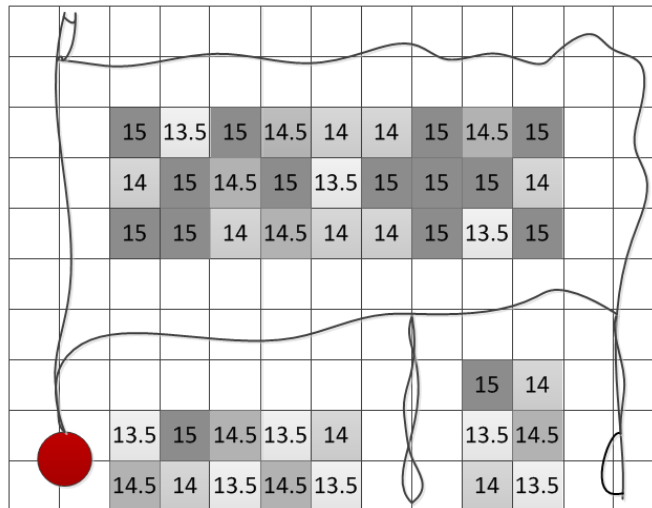

Figure 1: GVG with HIMM
5. Alternately, you can create an occupancy grid with 0’s and 1’s based upon the free and occupied space. Figure 1 provides an example of using a Generalized Voronoi Graph (GVG) and HIMM to create a world map.